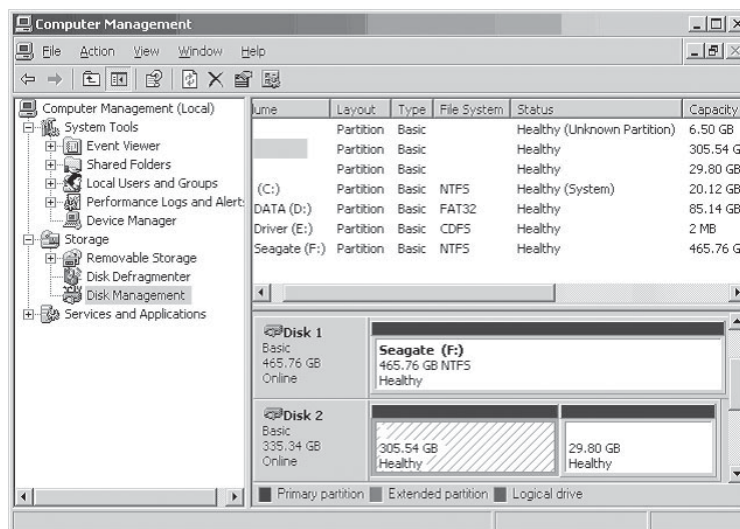

Figure 3: Disk Management
1. Right click **My Computer**, click **Manage**, click **Disk Management**, look for a **Healthy** disk without a name and drive letter assigned to it, see **Figure 3**.